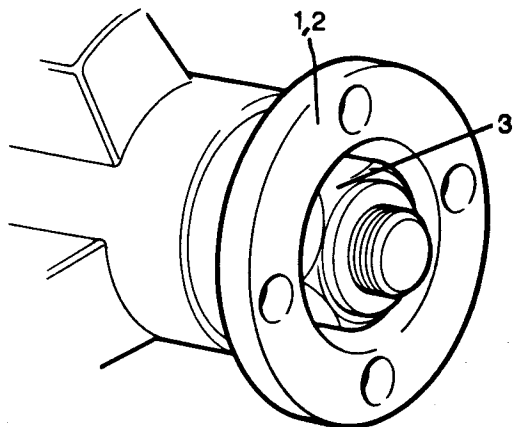

Fig J2.41
- (15) Refer to Fig J2.41. Fit the coupling flange (1) and plain washer (2). Loosely fit a new flange nut (3).